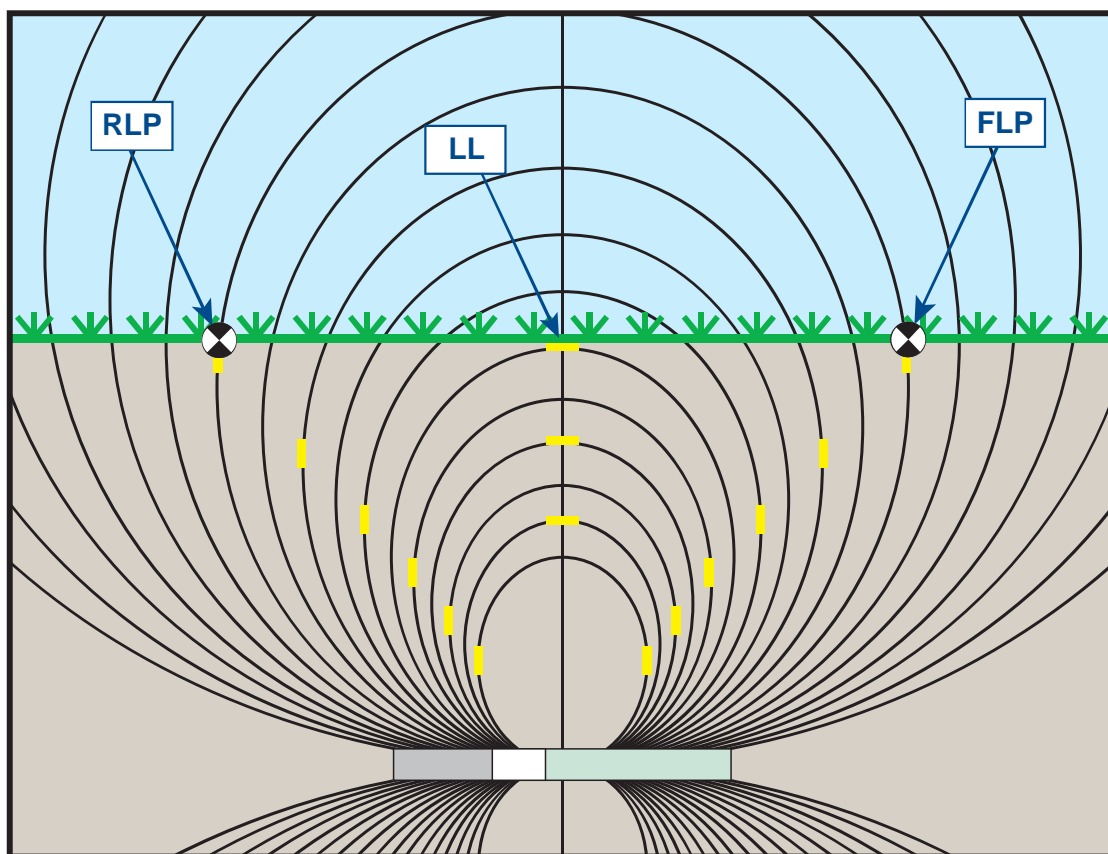

Figure B1. Flux Field and Geometry of FLP, RLP, and LL (Side View)
The signal field emitted by the transmitter, as shown in Figure B1, consists of a set of elliptical signals, or “flux lines”. The flux lines indicate the position of the transmitter. When the transmitter is level with respect to the ground, the locate line (LL) is directly over the transmitter, the depth displayed on the receiver is the actual depth, and the locate points (FLP and RLP) are at equal distances from the transmitter. The location of the LL is found at the intersection of the ground and the horizontal component of the flux field; the FLP and RLP are found where the vertical components of the flux field intersect with the ground. Some of the horizontal and vertical components are identified in Figure B1 by short yellow lines.